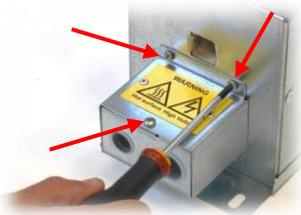

Figure 1
32. remove the cover by unscrewing the 3 screws as shown in the Fig. 1.
40. Close the lip by screwing 3 screws as shown in the Figure 1, max clamping torque is 1 Nm.